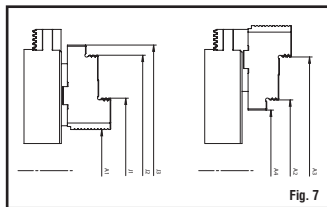

Fig. 7
- Max. length of clamped workpieces on diameters J1; J2; J3; A2; A3 and A4 (Fig. 6; Fig. 7) without additional support shall not exceed 4 times the height of clamped jaw steps, while the workpiece weight should not be greater than the chuck weight.